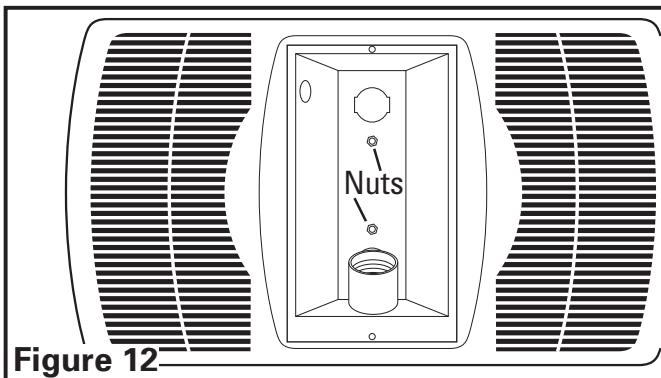

Figure 12
5. Attach light reflector in place with the two nuts removed during Step 2 in **SECTION 1 Preparing the Unit** so grill fits snuggly against ceiling (**Figure 12**).